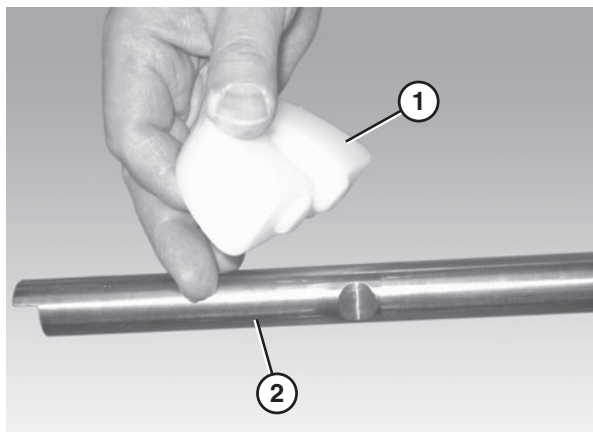

Figure 34
1. Attach the chain return shoes (**Figure 34, item 1**) to the return shaft (**Figure 34, item 2**).